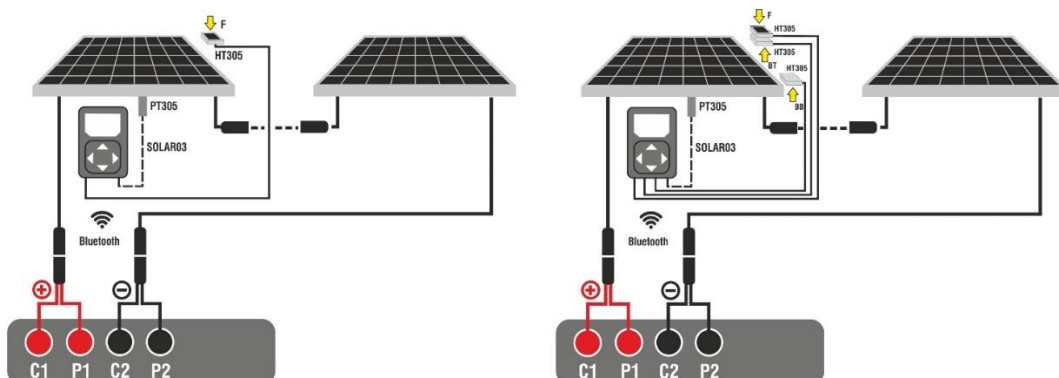

Fig. 63: Connection with remote unit SOLAR03 on Monofacial and Bifacial modules
3. Connect the instrument and the SOLAR03 remote unit to the module/string being tested as shown in Fig. 63. In detail:
- **In case of Bifacial modules**→, position the **three HT305 reference cells** on the front surface of module (**F**), on the top back section (**B T=BackTop**) and on the bottom back section (**BB=BackBottom**) of the module. Connect the front reference cell (F) to input "INP1", BT reference cell to input "INP2", BB reference cell to input "INP3" and **possibly** the temperature probe **PT305** to input "INP4" of the remote unit. In accordance with the IEC/EN60904-1-2 standard, the instrument calculates the equivalent front-side Irradiance (**Irreq**) value, which corresponds to the Irradiance on the front surface only, which produces the same effects as the Irradiance measured on both sides, considering the **bifaciality factor** (φ) of the module according to the following relationship: